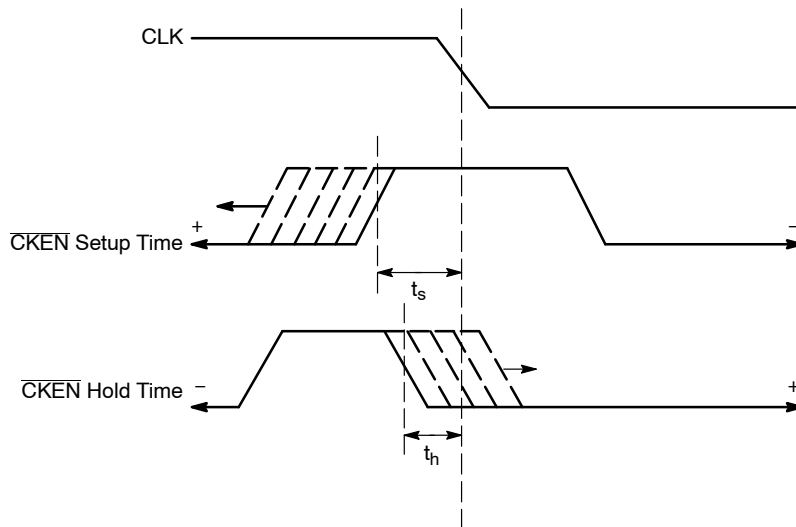

Figure 6.  $\overline{CKEN}$  Setup and Hold Time
Upon power-up, the internal flip-flops will attain a random state. To synchronize multiple flip-flops in the device, the Reset (pin 1) must be asserted. The reset pin will disable the internal clock signal irrespective of the CKEN state (CKEN disables the internal clock circuitry). The device will grab the first stream of data after the falling edge of RESET①, followed by the falling edge of CLK②, on second rising edge of CLK③ in either CKSEL modes. (See Figure 6)